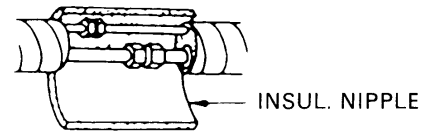

Fig. 5
3. After performing a leak test on the connecting part, insulate it with INSUL. NIPPLE and finish with a vinyl masking tape over it. Fig. 5